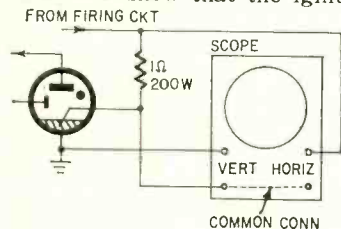

Fig. 7—How equipment is connected for checking ignitor firing characteristics.
Ignitor characteristics can be determined with an oscilloscope as shown in Fig. 7. Connect a 1-ohm resistor with a power rating of 200 watts (noninductive) in series with the ignitor lead as indicated. One vertical (V) input is tied to ground; the other vertical lead is to